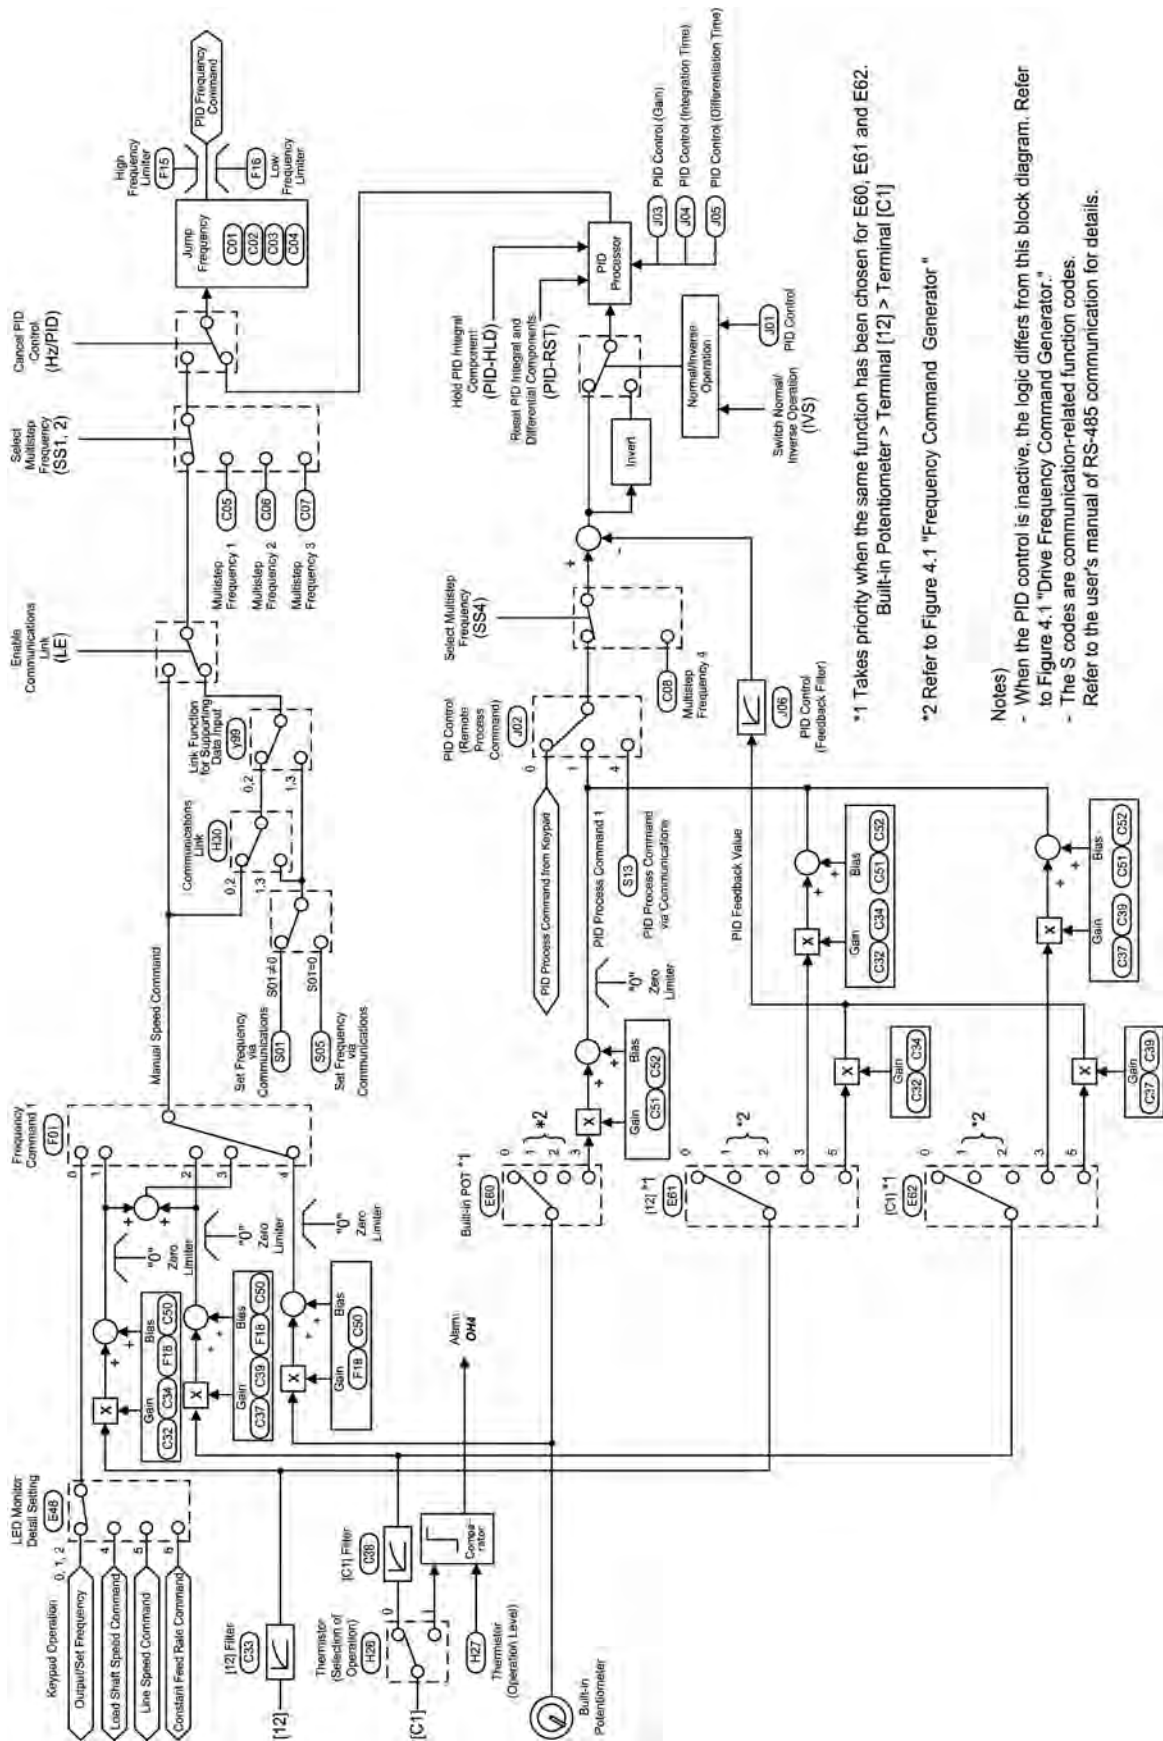

Figure 4.7 PID Frequency Command Generator
*2 Refer to Figure 4.7 "PID Frequency Command Decoder" for details.
The block diagram shown in Figure 4.7 shows the PID frequency command generator that becomes active when the PID control is enabled ($J01 = 1$ or 2). The logic shown generates the final frequency command according to the PID process command given by various means of setting and feedback, or frequency settings as a speed command given manually, and various means of switching.